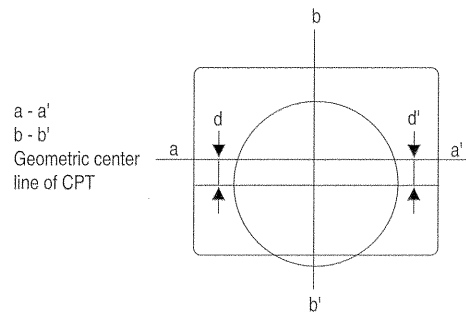

Fig. 2-3
- (9) Move DY so that the rear edge position of DY comes to the center of the two marked lines and fasten DY as $d=d'$ (Fig. 2-3).